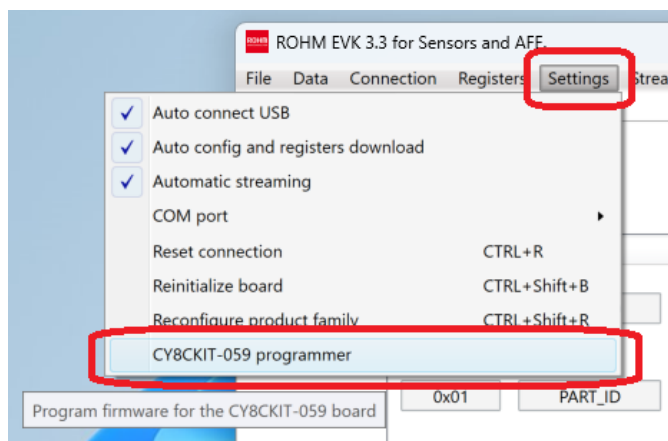

Figure 96: Programmer menu item.
1. From the 'Settings' menu, open the bottommost menu item named '... programmer' as depicted in Figure 96.